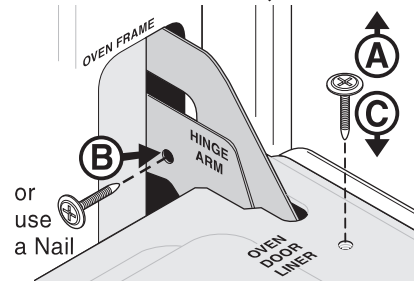

Fig. 2
2. Remove 2 screws located on the inside of the oven door liner (See **A** Fig. 2).
3. Insert the 2 screws into the door hinge holes located on the side of the hinge arm, one into each hinge (See **B** Fig. 2).